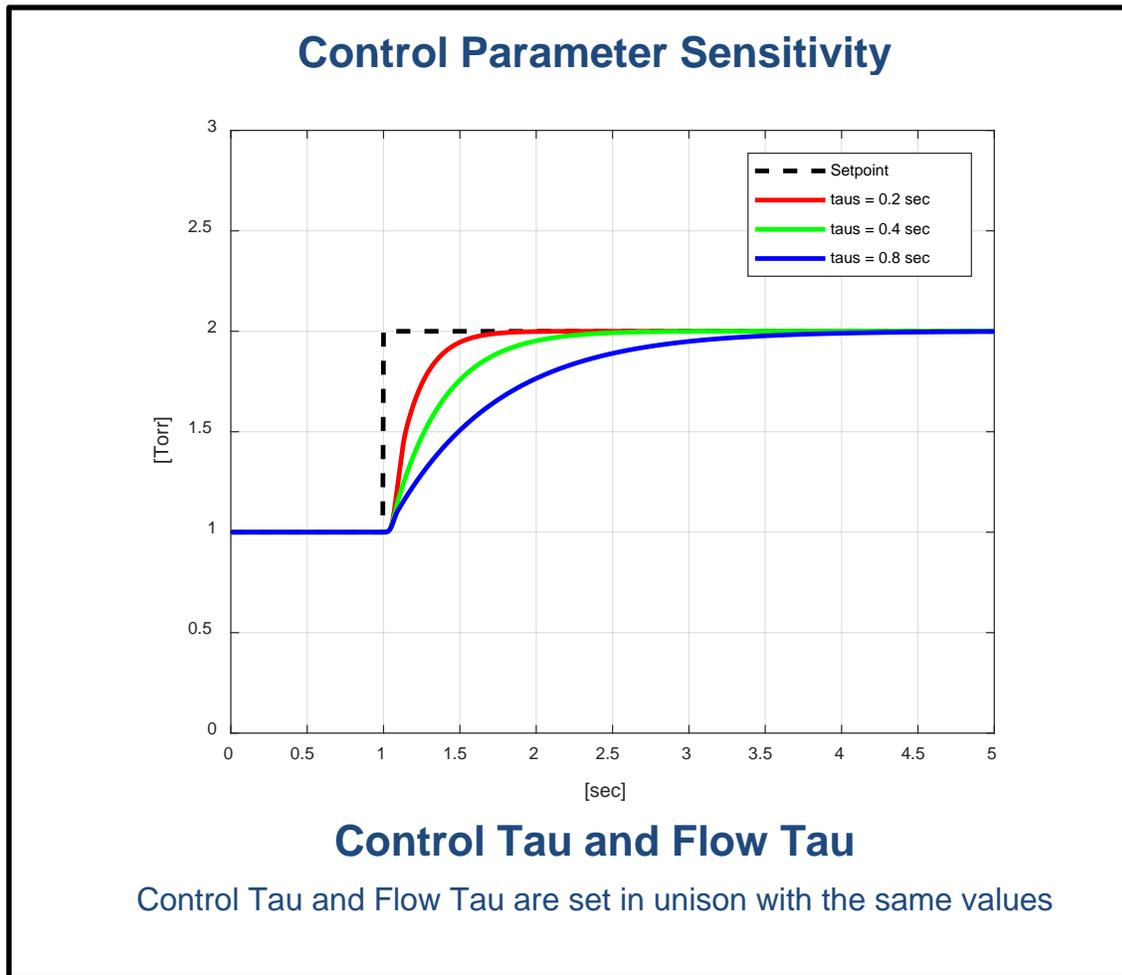

Figure 15: Main Control Parameter Sensitivity Example
- Larger Tau values yield slower but more stable control response while smaller Tau values yield faster response but with potentially less stable control and/or overshoot. The sensitivity of control performance to Tau values is demonstrated in Figure 15.